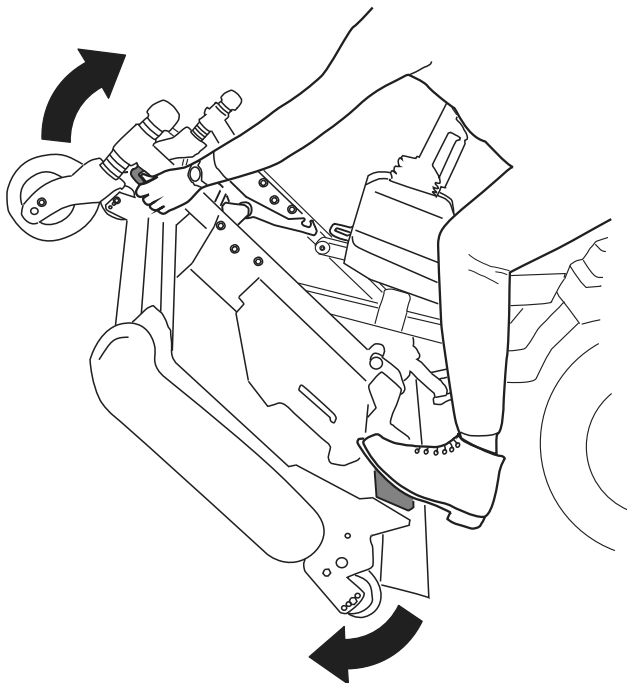
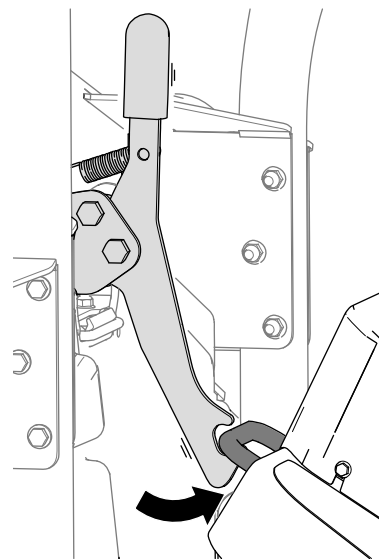

Figure 35
Figure 36
5. Rotate the cutting unit (Figure 35) so that the latch engages with the tie-down bracket (Figure 36).
1. Release the cutting-unit latch from the tie-down bracket (Figure 37) by slightly rotating the cutting unit slightly forward (refer to Figure 35) and pulling the latch handle forward.